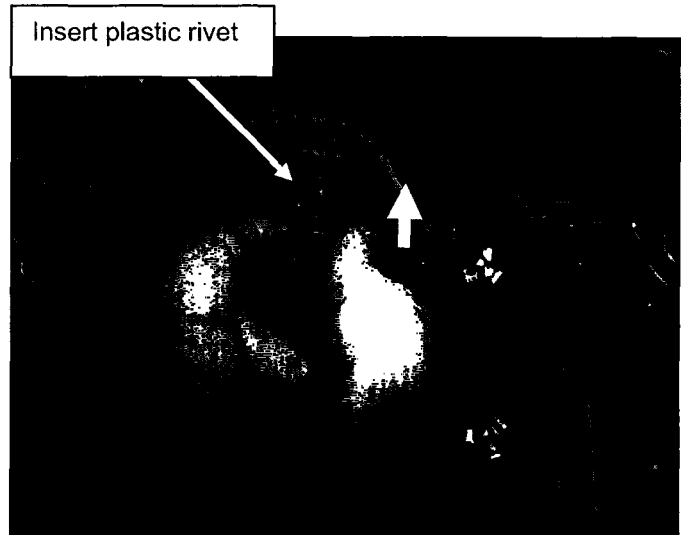

Figure 13
- d. Insert the black plastic rivets (two in each shield) through the shield and into the body (see Figure 13).